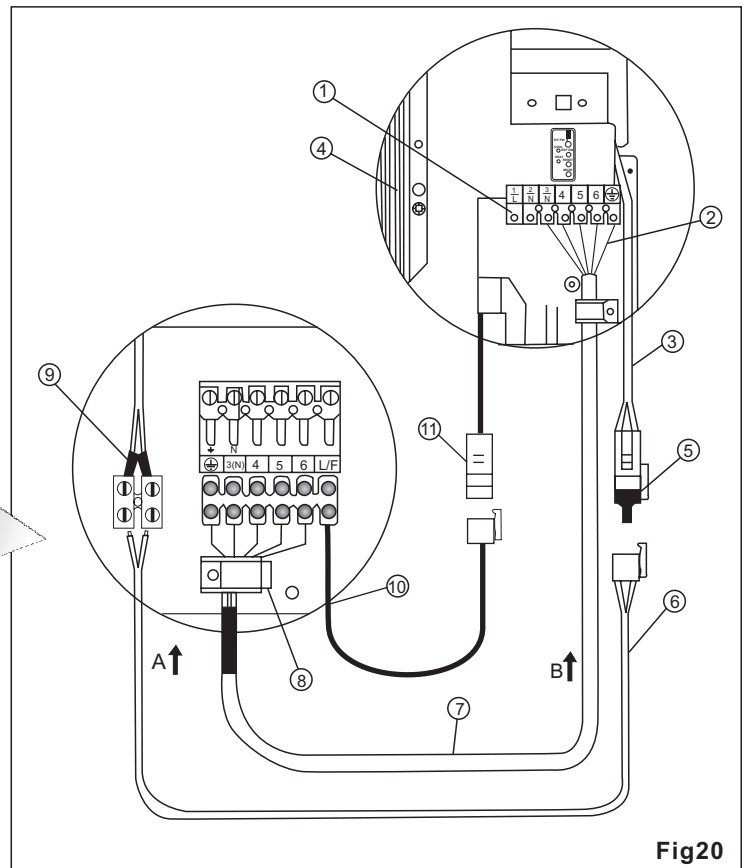

Fig.20
- Connect the cable ends to the terminals of the indoor and outdoor units, as shown in fig.20.